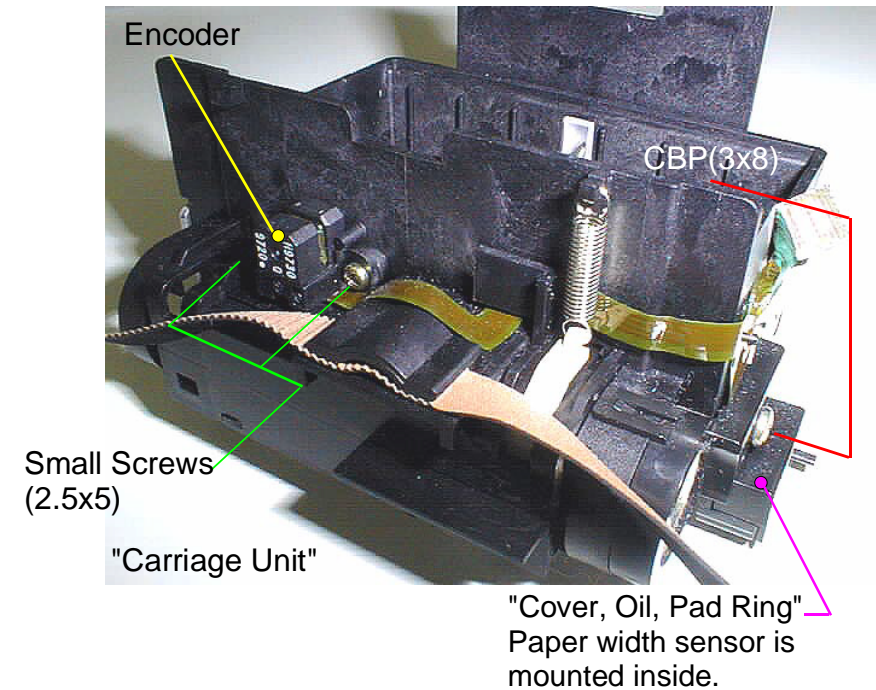

Figure 4-69. "Cable Assembly, Sensor FPC" Removal
2. Remove 2 small screws(2.5x5) securing encoder and one CBP screw(3x8) securing the paper width sensor, and remove "Cable, Assembly, Sensor FPC". (Refer to Figure4-69)